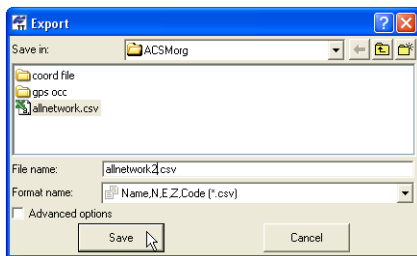

Figure 5-1. Export
2. Enter a file name and select the format name (for example, *allnetwork2*, *Name,N,E,Z,Code*) (Figure 5-1).